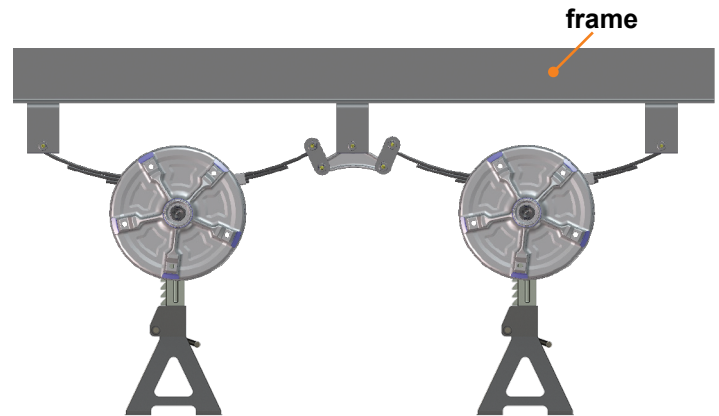

Fig.5
4. Using a floor jack, lift the axles slightly and place the additional properly-rated jack stands under the axles (**Fig.5**) so the shackle bolts can be driven out with a hammer.